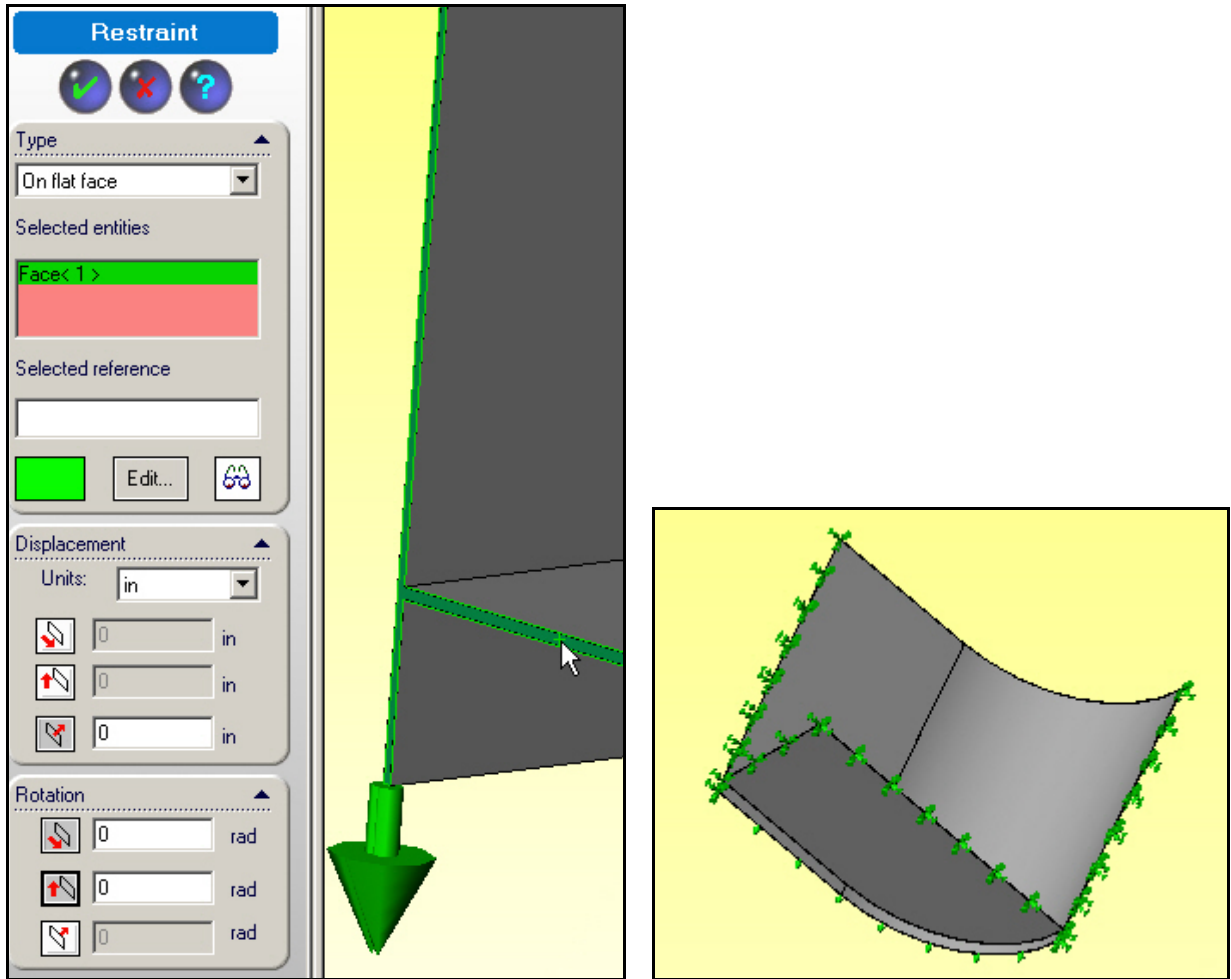

Figure 17 Evoking the left face shell symmetry restraints
3. Again, for a shell the two in-plane rotation components are zero on a symmetry plane. In the **Restraint panel** of pick **On flat face Type** and zero the normal displacement and enplane rotations and preview the restraints given in Figure 17.